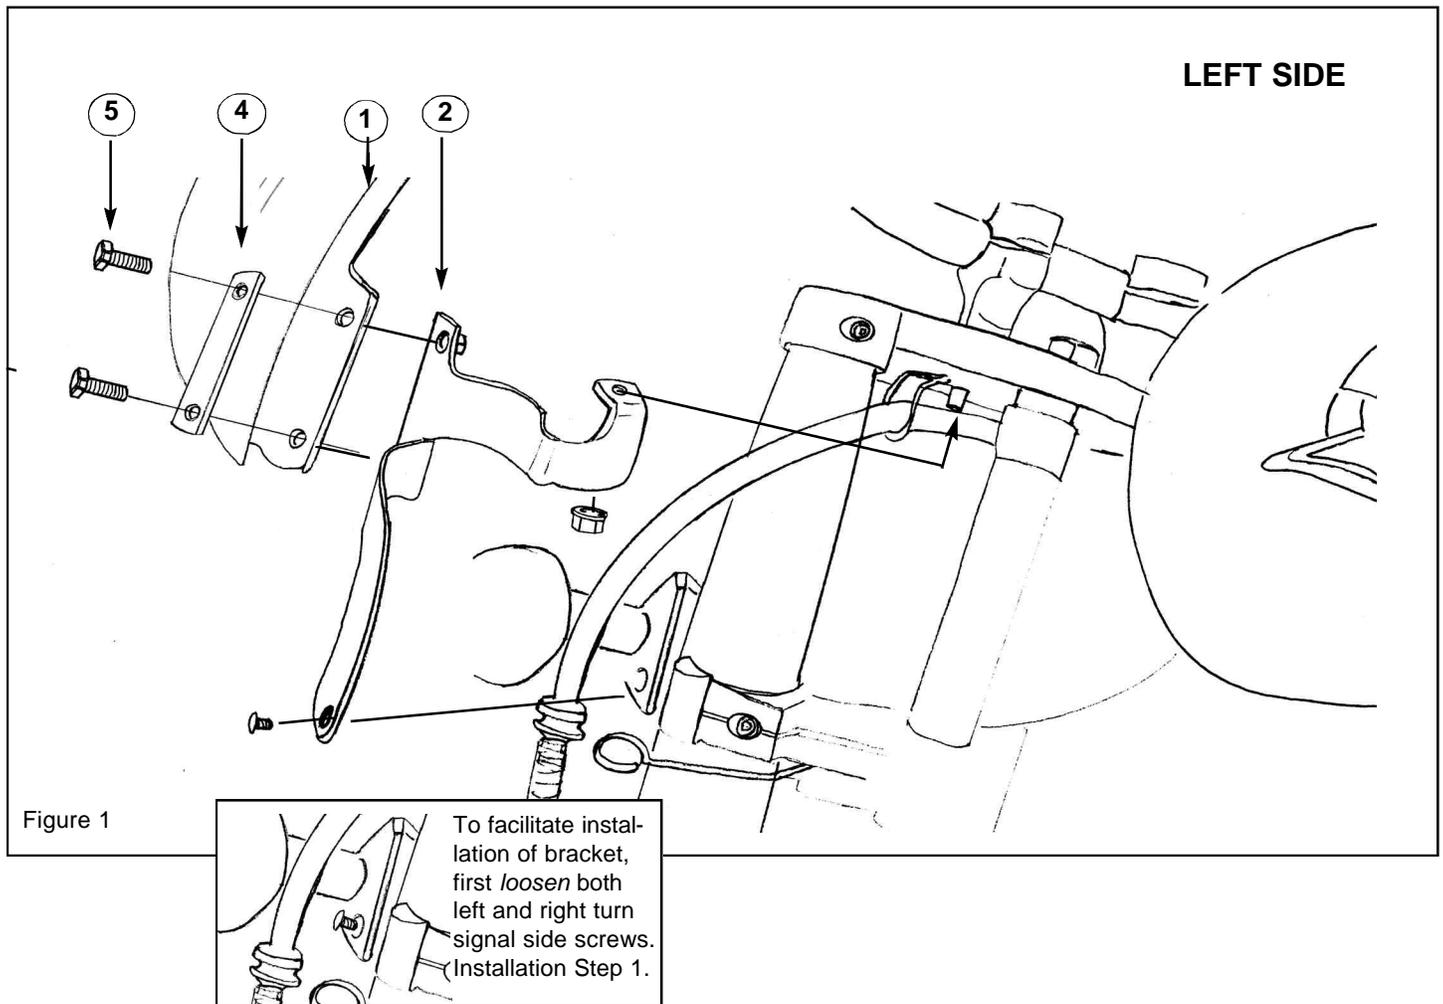

Figure 1
Mount Bracket. See figure 1.
1. Loosen the left and right side turn signal bar side screws. Do not remove (5mm hex key). See figure 1 inset.
Windshield Installation. See figure 1.